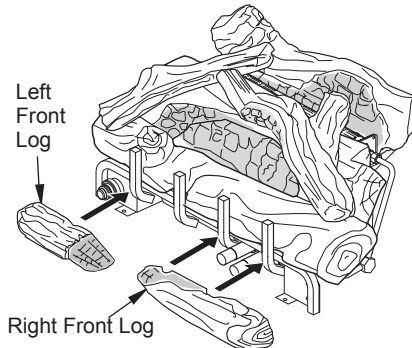

Figure 26 - Installing Front Logs
6. Place right and left front logs against grate as shown in Figure 26 to hide controls.